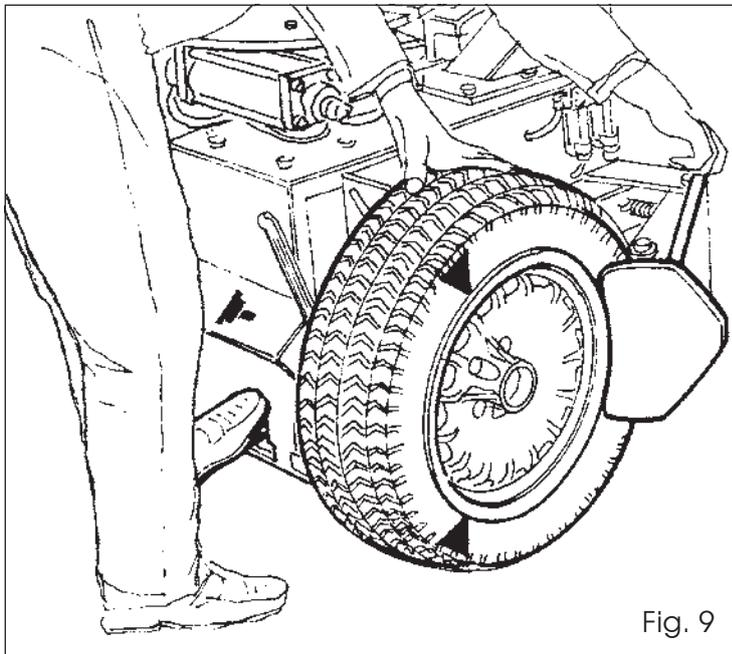

Fig. 9
- ❑ Position the wheel as shown in Figure 9 and bring the bead breaker shoe against the edge of the rim.
- ❑ Depress pedal (11) and break the bead.